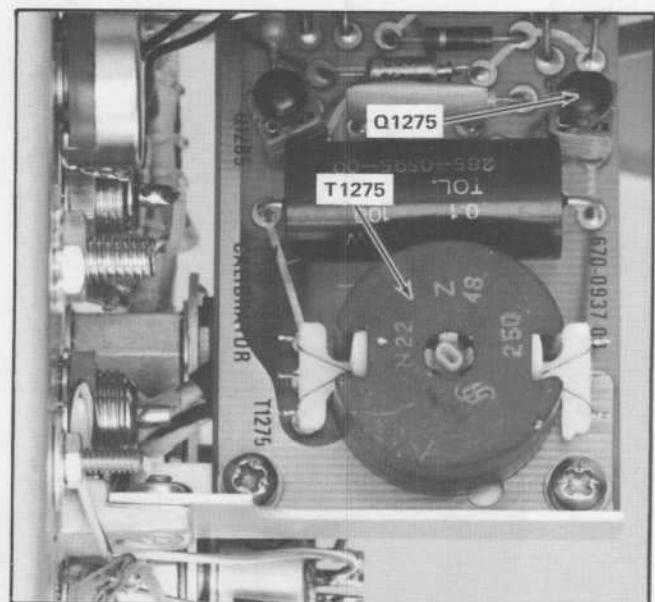

Fig. 5-4. Location of Q1275 and Calibrator frequency adjustment T1275 (Calibrator circuit board).
- a. Remove Q1275 (located behind swing-out side panel; see Fig. 5-4) from its socket on the Calibrator circuit board.
- f. ADJUST—Calibrator Frequency adjustment T1275 (see Fig. 5-4) for one cycle of calibrator waveform for each time mark.
- i. ADJUST—Calibrator Frequency adjustment T1275 (see Fig. 5-4) for minimum drift of time markers.